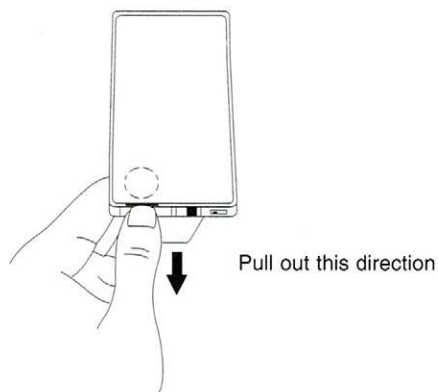

Figure 5-6. Pull Out Battery Carrier
4. Place your thumbnail in the slot, grip the plastic border, and gently pull out the battery carrier while firmly holding the PC Card (see Figure 5-6). The carrier and battery may flip out of the card suddenly, so you may want to hold the card over a desk while removing the battery carrier.